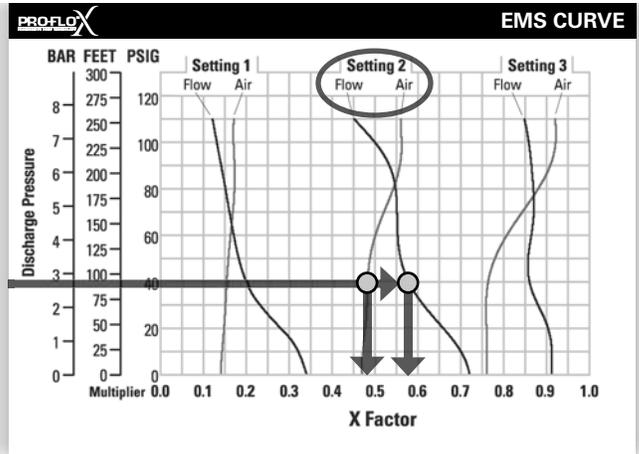

Figure 2
FIGURE 2 Once the shaft has reached the end of its stroke, the air valve redirects pressurized air to the back side of the diaphragm **B**. This pressurized air is also directed to the opposite side of the diaphragm **A** through a passageway that is routed through the common shaft and outer piston. The pressurized air forces diaphragm **B** away from the center section while also pushing diaphragm **A** to the center section. Diaphragm **B** is now on its discharge stroke. Diaphragm **B** forces the inlet valve ball onto its seat due to the hydraulic forces developed in the liquid chamber and manifold of the pump. These same hydraulic forces lift the discharge valve ball off of its seat, forcing fluid to flow through the pump discharge. The pressure on diaphragm **A** creates a force on the shaft that is combined with the pressure from diaphragm **B**. This total load is transferred to the liquid creating a liquid pressure that is two times greater than the supplied air pressure.
Step 2: Determining flow and air X Factors. Locate your discharge pressure (40 psig) on the vertical axis of the EMS curve (Figure 2). Follow along the 2.8 bar (40 psig) horizontal line until intersecting both flow and air curves for your desired EMS setting (in this case, setting 2). Mark the points where the EMS curves intersect the horizontal discharge pressure line. After locating your EMS points on the EMS